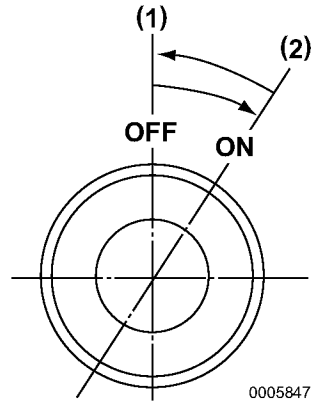

Figure 2
5. Turn the key switch to the ON position (**Figure 2, (2)**). Ensure that the instrument panel indicators light and the alarm sounds. This indicates that the indicators and the alarm are working correctly.